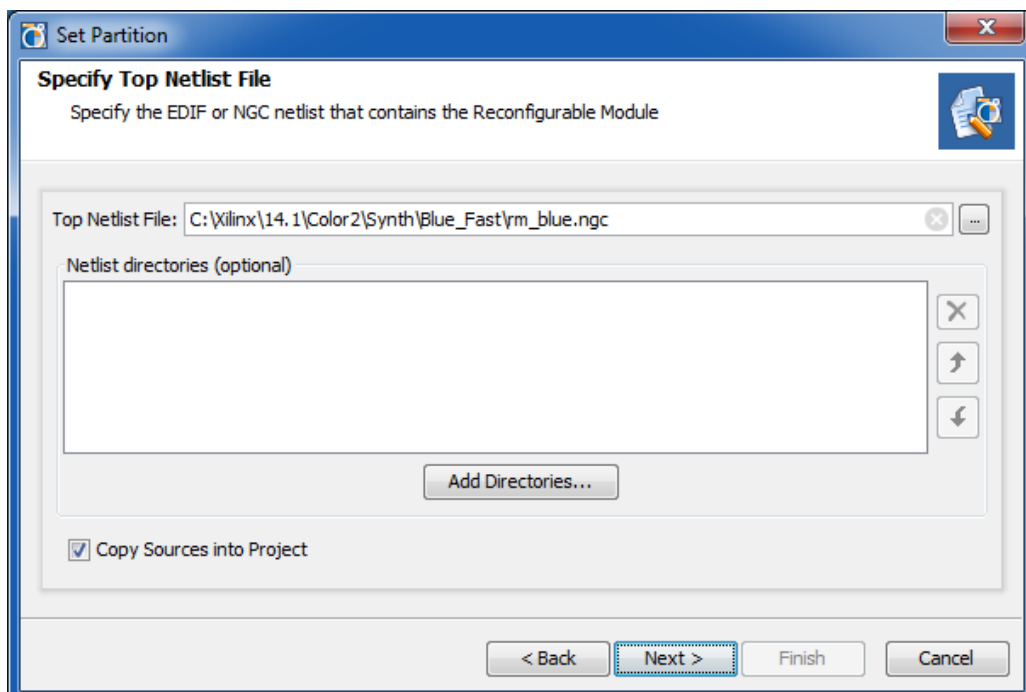

Figure 4-8: Defined Reconfigurable Partition with Single Reconfigurable Module Added
4. In the Set Partition dialog box, shown in Figure 4-8, provide the path to the NGC file.